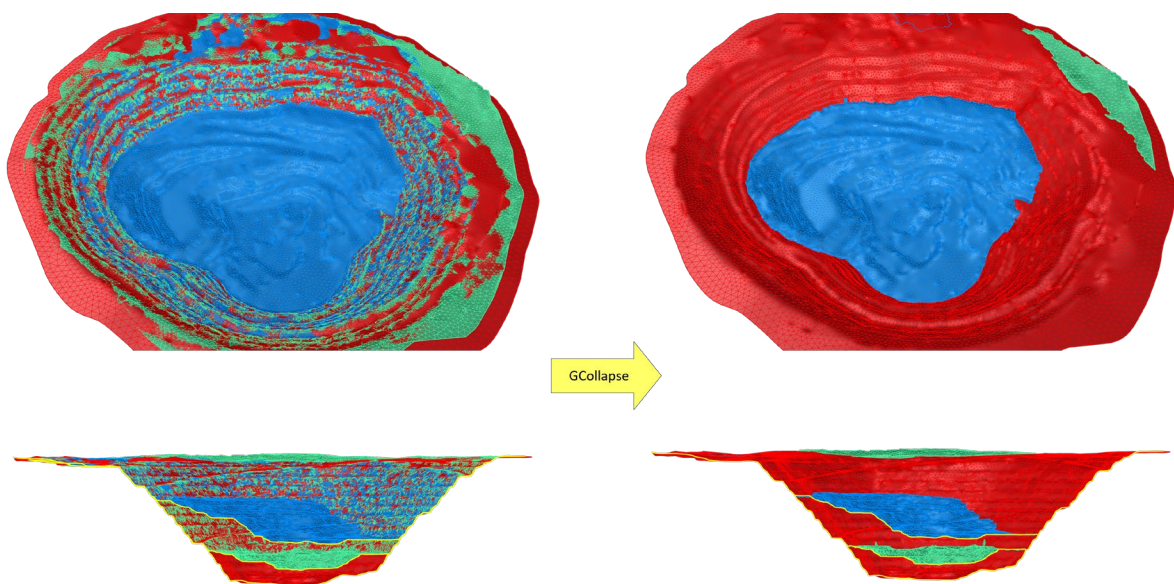

Figure 53: Resolving overlapping pit mining surfaces using GCollapse.
Figure 53 shows **GCollapse** performed on an open pit mine model with three partially overlapping mining surfaces (mining stages). After selecting a base mesh (in this case, the deepest red mesh), **GCollapse** allows collapsing / separating the remaining meshes in order to create well defined volumes between them, which is necessary for proper volume meshing. This example requires only two operations with **GCollapse**: (1) collapse the green (target) mesh onto the red (base) mesh and remesh the results to the desired parameters, and (2) collapse the blue (target) mesh onto the red and green meshes (bases) followed by another remeshing operation to improve surface mesh quality. This process can be repeated on as many meshes as necessary.